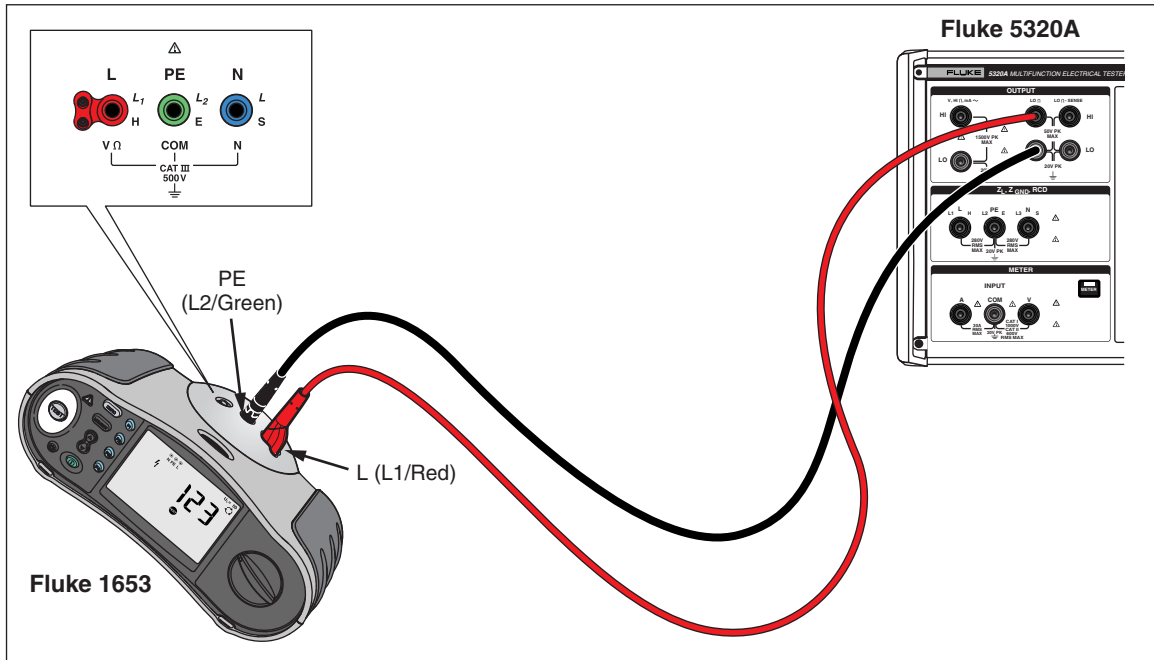

Figure 7-1. Resistance Calibration UUT Connections
2. Using Figure 7-1 for a reference, connect the UUT to the Calibrator's **LOΩ HI** and **LO** terminals.